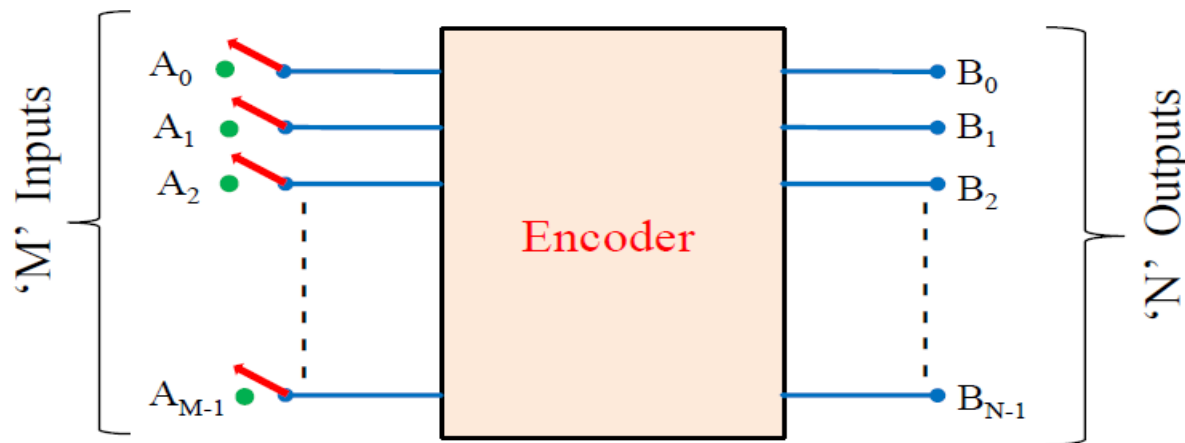

Fig. 10
- Block diagram of Encoder is shown in Fig.10. It has 'M' inputs and 'N' outputs.